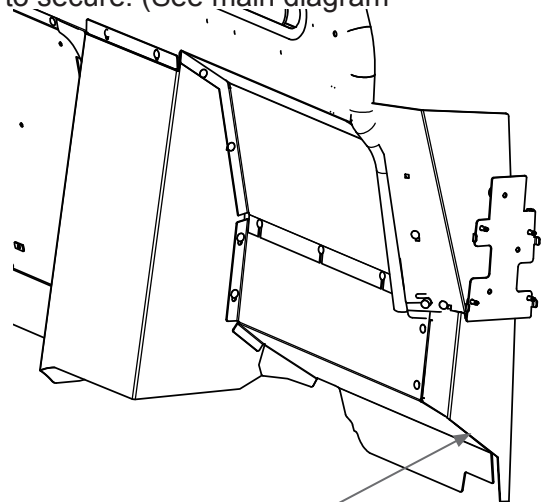

fig. 8
- F. Install the (3PK57SST15) filler panel on the passenger side lower b-pillar area. (As shown in fig. 8 and main diagram)